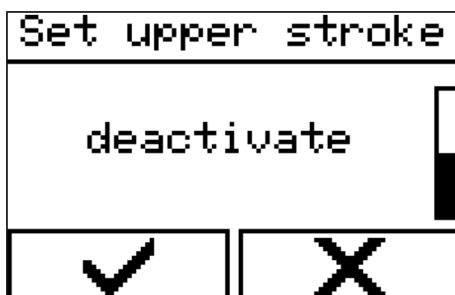

Fig. 98: Deactivating stroke limitation
3. ➔ Select 'Deactivate upper stroke limit' (Fig. 98).